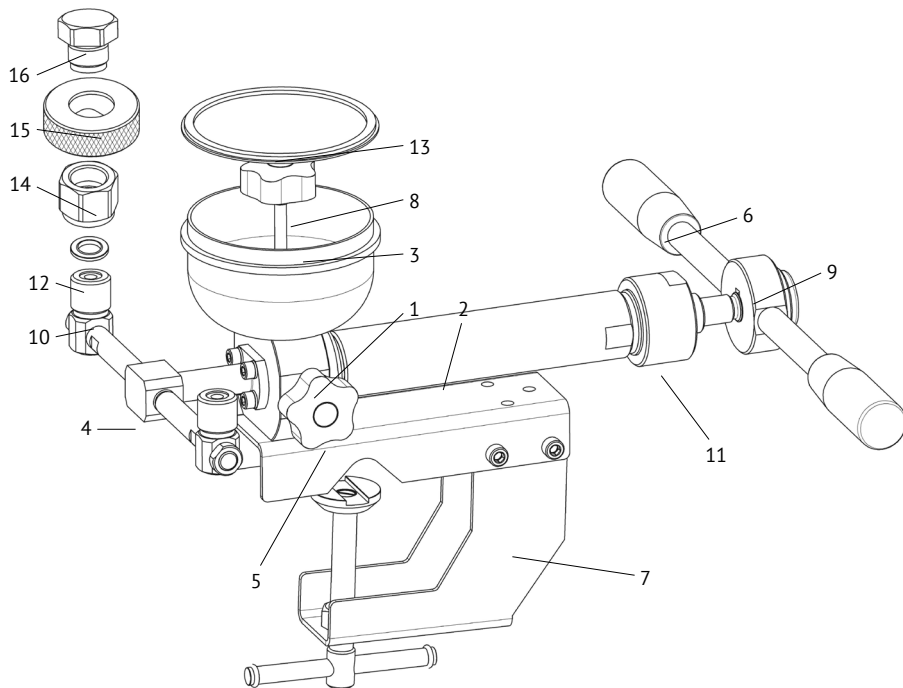

Fig. 1. Instrument view:
4.1 Small-sized hydraulic-pneumatic pump PGM consists of bronze housing 1 (Fig. 1) with connected working cylinder 2, with guide screw 11 and handwheel 9 with detachable handles 6. Sleeve 3 with cover 13 for working liquid with pressure release valve 8 is located at the top. Ramp
6.3 Securely fix PGM on the tabletop or pipe by means of clamp 7 (Fig. 1).
6.5 Install rubber-metal seals 12 (Fig. 1) on racks 10 and screw connecting nuts 14 of required size (left thread) from the set of spare parts and accessories. Check ramp valve condition 5 (shall be 1–2 turns open).
6.6 Fill-in 100–150 ml of working liquid in the sleeve. Open pressure release valve 8 unscrewed needle for 2–3 turns until the working liquid appears in racks holes for checked MI. Then, rotate ramp valve clockwise 5 (Fig. 1) to close it to the stop without any excessive efforts.
7.2 Check condition and accuracy of installation of rubber-metal seals 12 (Fig. 1), condition of the end surfaces of nozzles of connected MI.
7.4 Open ramp valve 5 (Fig. 1) unscrewed needle for 0.5-1 turn.
8.2 Daily maintenance: perform visual inspection, clean from dirt and dust with dry clean cloth. Check lubricant on the press guide screw surface 11 (Fig. 1). If lubricant is not available or insufficient, lubricate screw surface with grease LITHOL-24 GOST 21150-87.